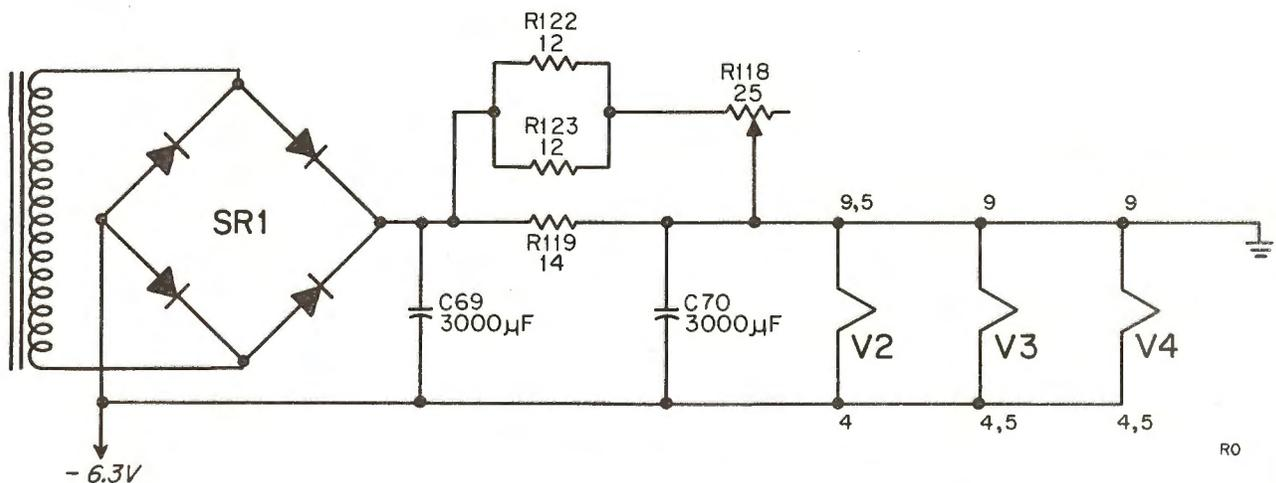

Figure 1. Modified DC Heater Circuit for Model 416A
5) Connect dc probe of a VTVM such as Model 410B to negative voltage point (see Figure 1). Connect common test lead to chassis.